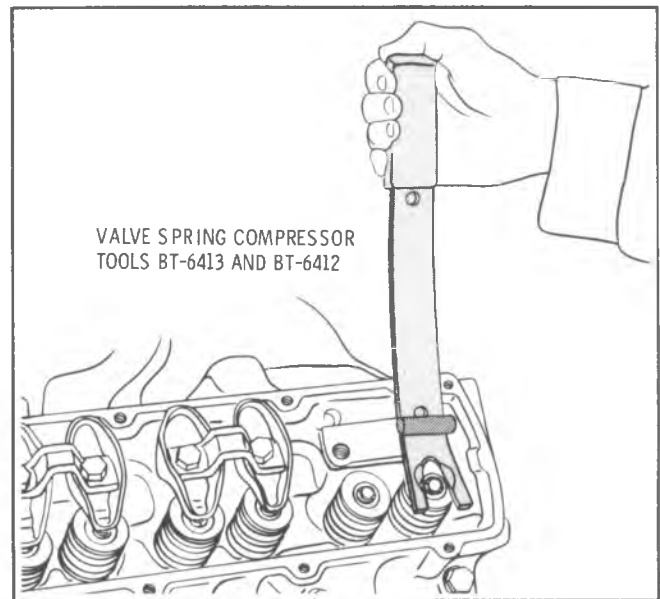

Fig. E-49—Removing Valve Spring
3. Install Tool BT-6413 (Fig. E-49) and compress the valve spring until valve keys are accessible; then remove keys, valve rotators and springs.